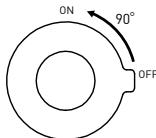

Fig. 3
- 3.1 The temperature safety button (10) in the temperature adjustment knob to the right (11) prevents accidental adjustment by children and protects the user from burns (Fig. 3). If you need water temperature above 38°C, move the safety button to the outside (left) and while holding it, rotate upwards (according to the plus arrow). Release the button to automatically return to the maximum setting of 38°C when the knob is turned in the opposite direction.
- 3.3 Outflow adjustment knob (15) - rotate the knob downwards to increase water flow from the tap (Fig. 3), as indicated on the knob. Rotate the knob upwards to shut off water flow.